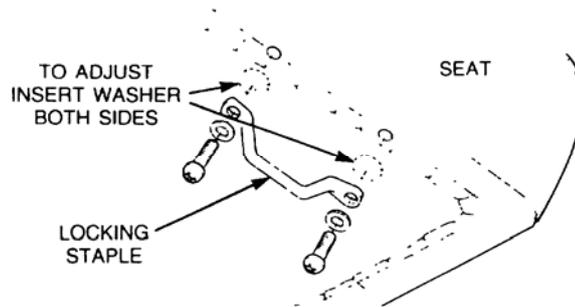

Figure 10 Rear Seat Locking Staple Replacement
- d. Noting the position of the flat washers (refer Figure 10), remove the two screws and washers securing the locking staple to the rear seat cushion and base.
- c. To adjust the staple height, add or subtract washers (in equal amount on both sides of the locking staple) between the cushion base and the staple (refer Figure 10).